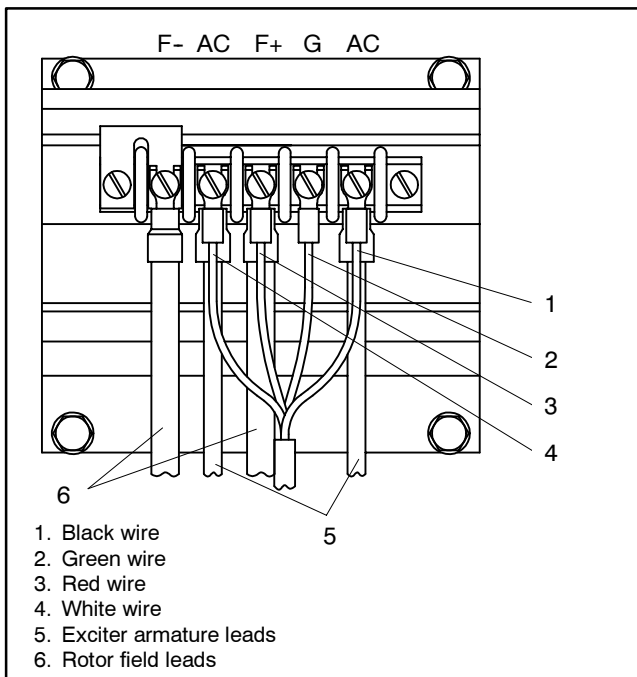

Figure 6 SCR Assembly Wiring
14. Connect one rotor field lead to SCR F- terminal and remaining rotor field lead to SCR F+ terminal. See Figure 6. Connect exciter armature leads to SCR AC terminals. Connect photo board black wire to SCR AC terminal, green wire to G terminal, red wire to F+ terminal, and white wire to remaining AC terminal. Tighten SCR assembly terminal screws to secure electrical connections.